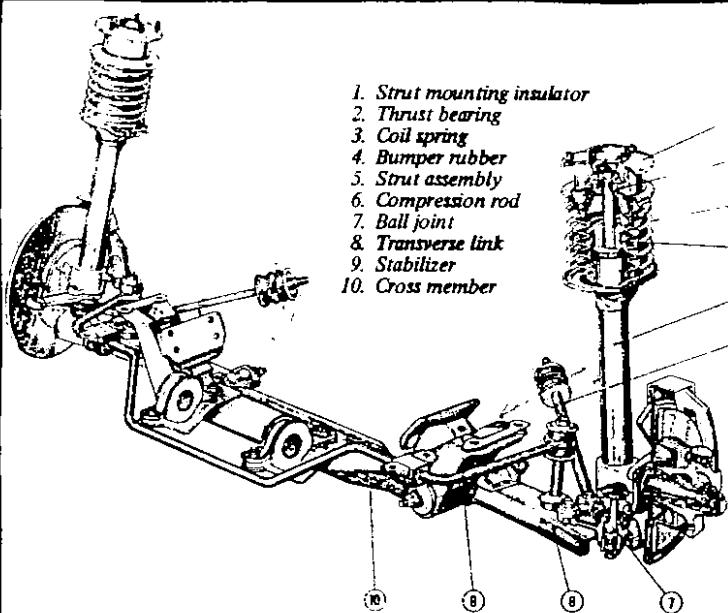

Fig.C.1 Front suspension assembly
The front suspension is of the strut type, with the coil spring and hydraulic damper units mounted on the crossmember and transverse link assembly, (See Fig.C.1). Vertical movement of the suspension is controlled by the strut assembly. Forward and rearward movement is absorbed by compression rods (6), and side movement controlled by the transverse links. Front suspension servicing procedures are similar to those given for vehicle fitted with L14, L16 and L18 engines, and can be carried out by reference to the instructions given in the appropriate section. Camber and castor angles are preset, and cannot be adjusted, and a check must be made for signs of damage to the suspension system if the angles do not conform to the figures given in Technical Data.